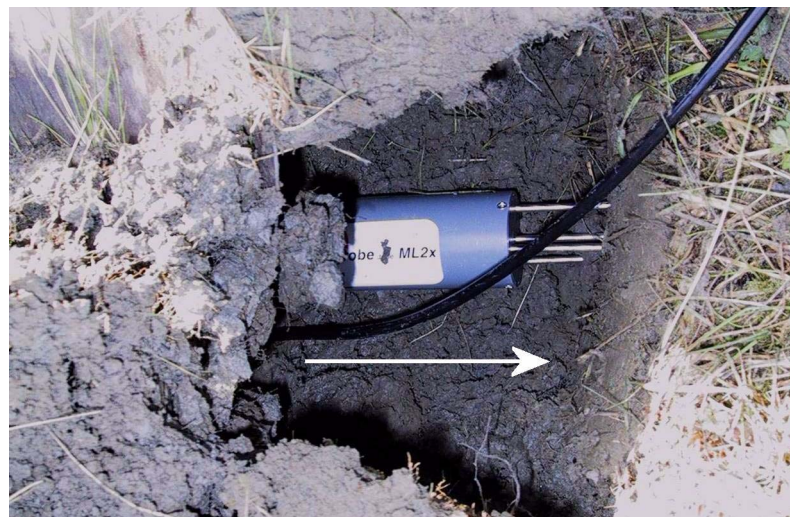

Figure 81 **ML2x Sensor at the Bottom of the Hole**
- b. To get good sensor contact with the soil, position the sensor horizontally into the hole and push the sensor into the wall of the hole (to the direction of the arrow in Figure 81 on page 92) until the measurement rods are fully in the soil.